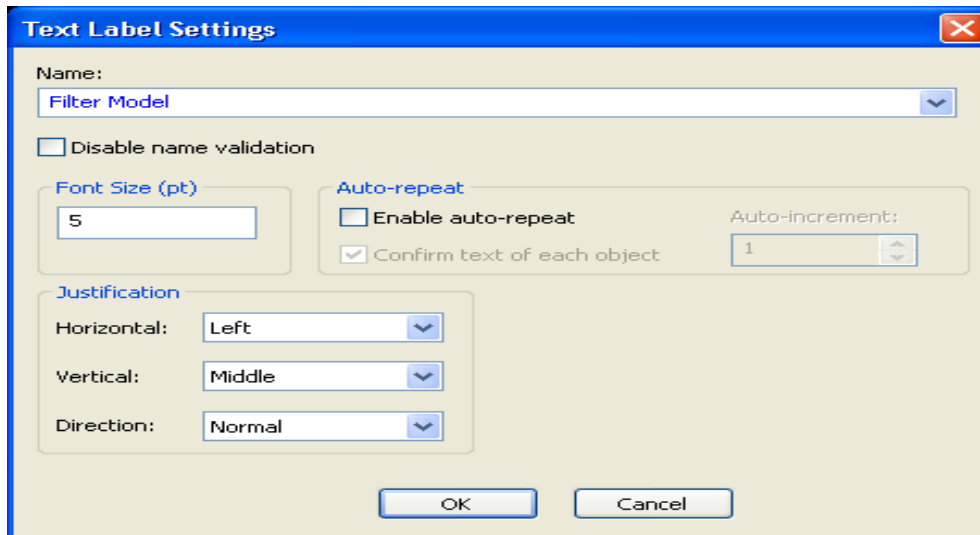

Figure 118: **Place Text** dialog.
- ☑ Click in the center of the work area. The **Place Text** dialog box opens (Figure 118).